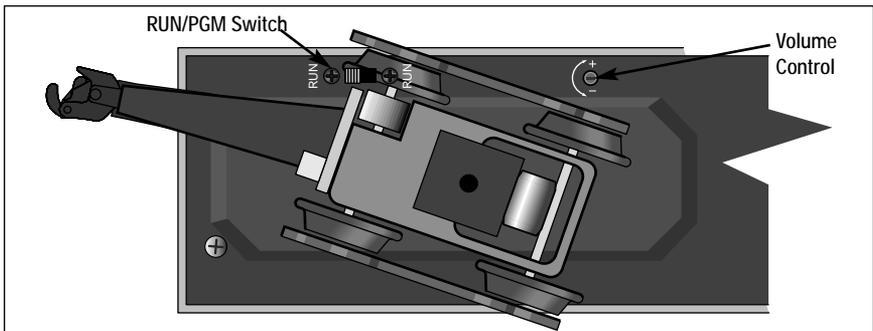

Figure 2. Switch and volume locations
- All Lionel command-equipped products come factory-programmed with an ID# of 1. (To change the ID #, see page 11.) Even though your StationSounds car is not an “engine”, it is still addressed using  on the CAB-1 Remote Controller. Use the volume control at the bottom of the car (see Figure 2 on page 11) to set the volume to your desired level.
**STEP 1:** Move the switch on the StationSounds Car from RUN to PGM. Refer to Figure 2 on page 11 for the switch location.